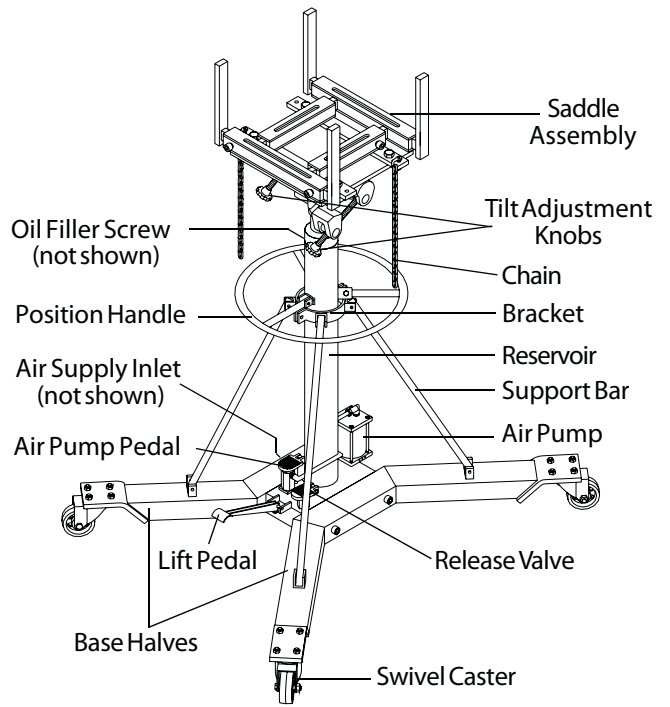

Figure 2 - Model ATD-7434 nomenclature
1. Pour a teaspoon of good quality air tool lubricant into the air supply inlet (See Figure 2). Connect to air supply and operate for 3 seconds to evenly distribute lubricant.